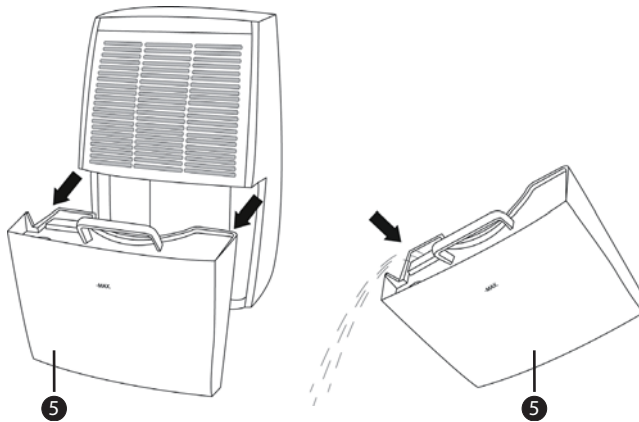

Fig. 1
- ◆ To empty the water tank ⑤, pull it out a little to the left and the right and then hold it by the carrying handle (see Figure 1).